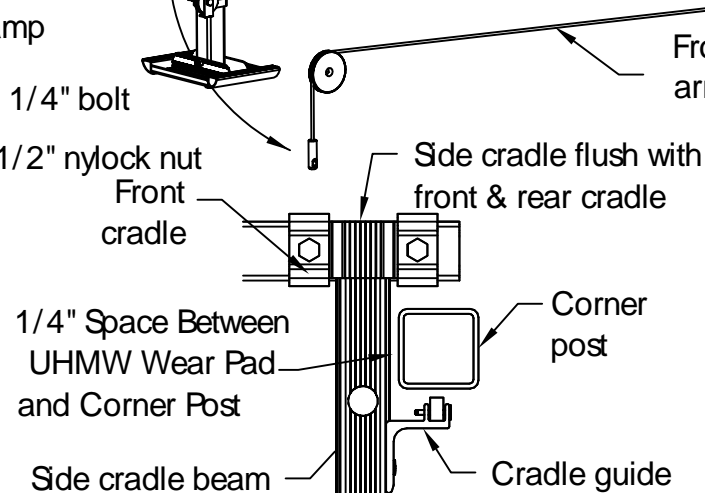

Fig. 5C
- ❑ Cradle is fastened together using (8) 1/2" x 1 1/4" bolts and (8) 1/2" nylock nuts. Allow 1/4" gap between the side cradle wear pad and corner post as shown in Fig. 5C. Torque to 100 ft/lbs.